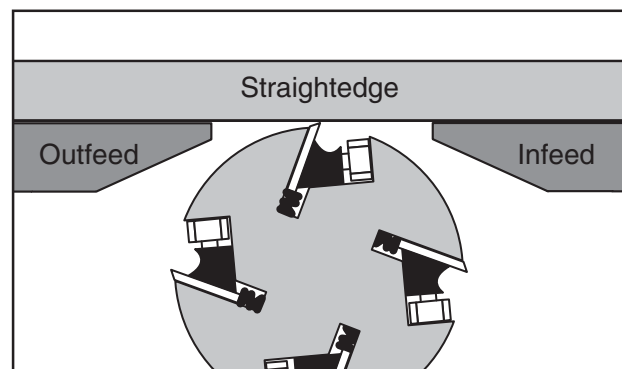

Figure 42. Infeed table adjusted even with outfeed table and knife at TDC.
3. Adjust the infeed table until it is level with the outfeed table, as illustrated in **Figure 42**.